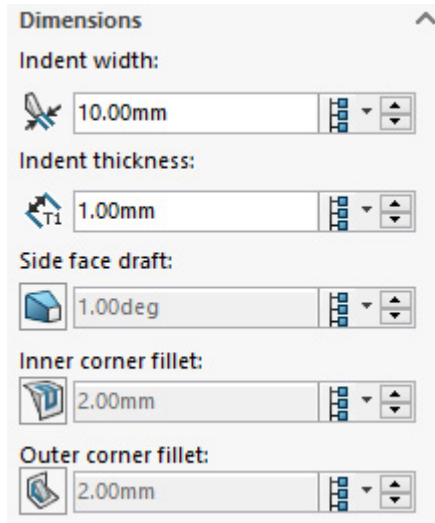

Figure 6.6: The Dimensions section of a Sheet Metal Gusset
10. The next section, **Dimensions**, (Figure 6.6) allows us to set the rest of the sizes needed for our **Gusset**: